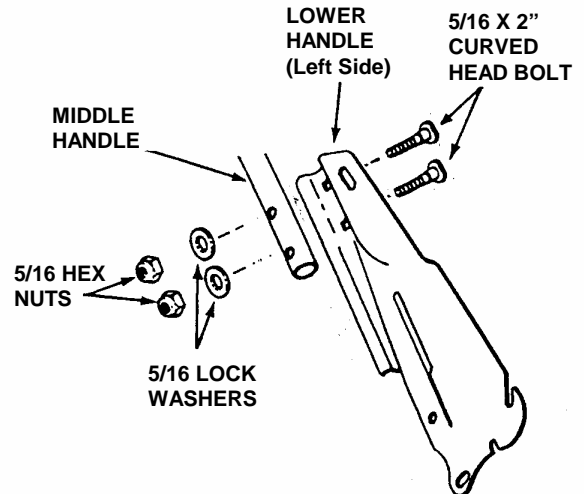

FIGURE 2
STEP 2: New hardware can be found in hardware bag. Attach middle handle to lower handle brackets using 5/16-18 x 2" curved head bolts, installed from the inside of handles as shown, and secure with 5/16 internal tooth lock washers and hex nuts. Do Not tighten at this time. See Figure 2.